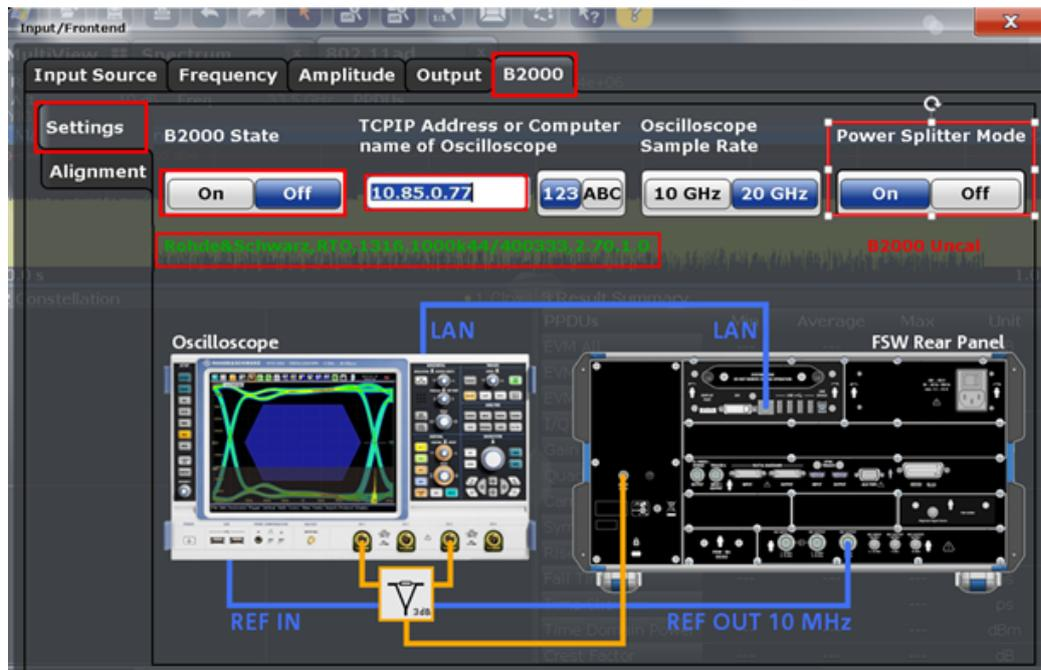

Figure 4-7: B2000 settings.
As shown in Figure 4-7, the connection status and the calibration status are indicated in the B2000 Settings tab. If the connection status is green, it indicates a successful connection to the RTO. Since FSW firmware 2.60 there is a possibility to improve the EVM effectively by 2.5 dB when the signal goes through an external splitter to the RTO, so the signal is distributed to two independent A/D converters. The alignment
- The B2000 is switched on (see Figure 4-7)